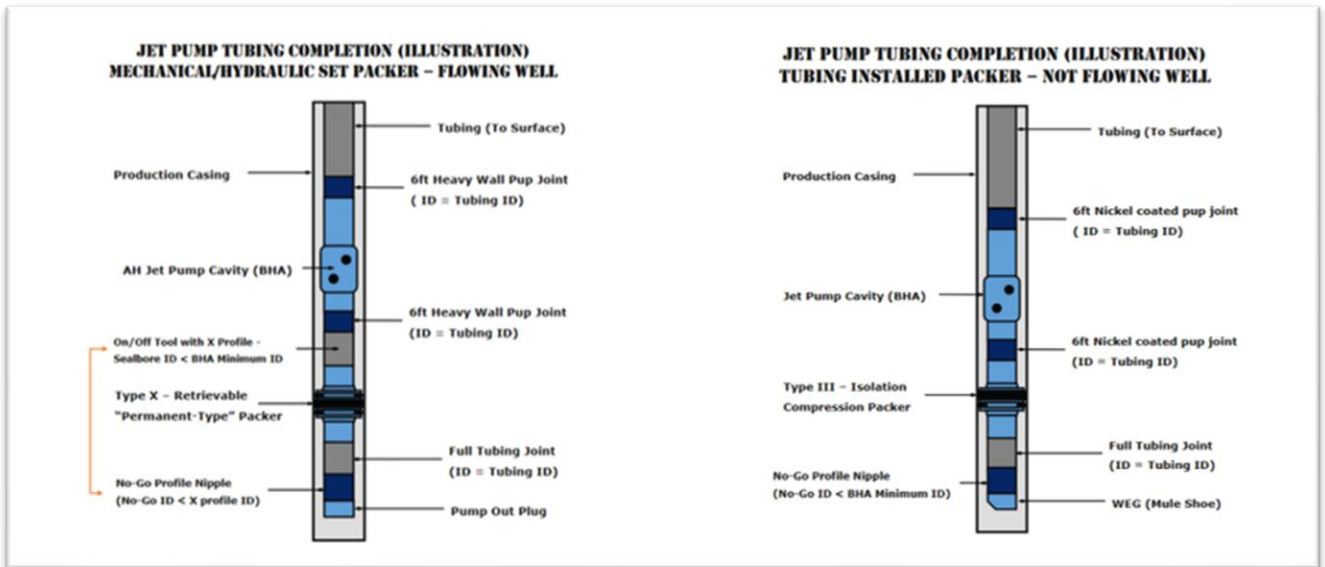

Figure 8: Typical jet pump completions (Eagle Ford)
- The annular packer and tubulars: The packer is installed on the tubing string, above the perforations' top, and below the BHA. It must provide effective and long-lasting seal and endure the high temperatures at the bottom of the well. On standard jet pump installations, on which power fluid is pumped down the tubing, the annular packer is the sub-equipment that prevents the return fluids from flowing back into the formation. On reverse jet pump installations, where power fluid is pumped down the annulus, the packer holds the power fluid column in the annular to flow down to the perforations, so this will be flowed entirely to the jet pump nozzle. To operate a jet pump, at least two tubulars are required, the power fluid conduit, and the return commingled fluids conduit. In most cases, jet pump completions are made with a tubing string concentrically installed inside the well's production casing. Please see figure 8.